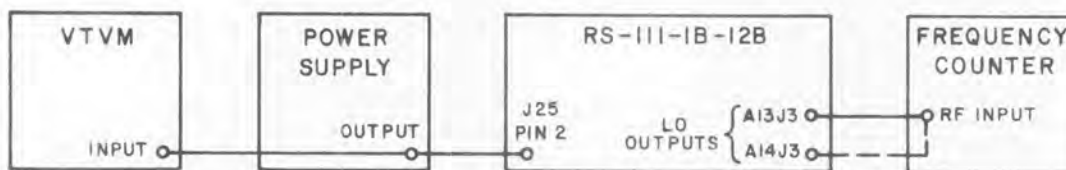

Figure 4-5. Test Setup, AFC (DAFC) Range Performance Test.
- (1) Connect the equipment as shown in Figure 4-5.